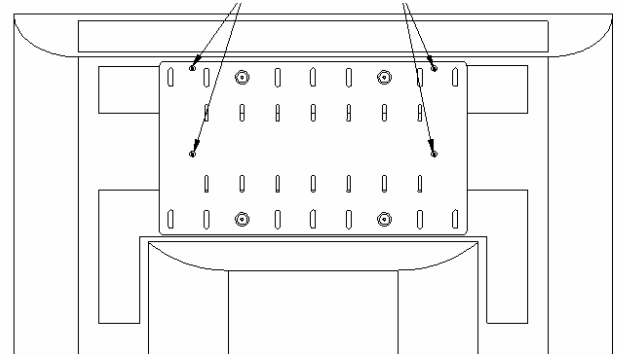

Figure 14. Attach 13.375in. x 4.75in. Pattern
3. Stack 3 spacers per hole, using the hole pattern on the back of your display, as shown in Figure 14:
4. Place MSP-MSBTW1 (10) on spacers and secure using M4 x 50mm screws